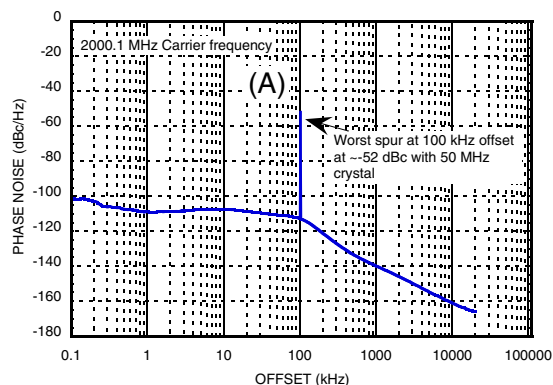
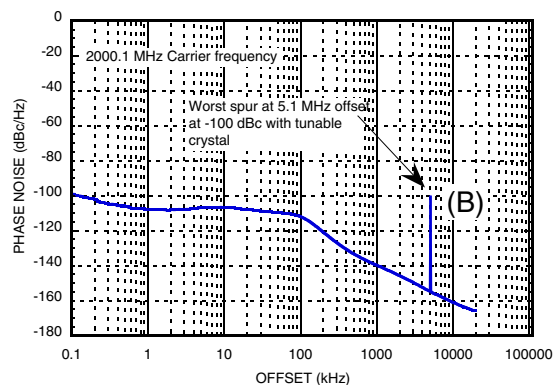
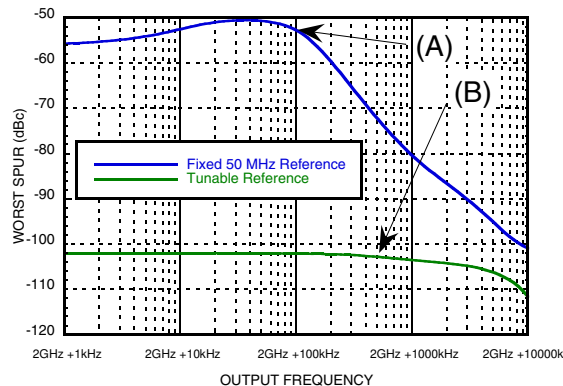

Figure 13. HMC830LP6GE Worst spur at any offset, fixed 50 MHz reference, output frequency = 2000.1 MHz
Figure 14. HMC830LP6GE worst spur at any offset, tunable reference (another HMC830LP6GE), output frequency = 2000.1 MHz
Figure 15. Largest observed spurious, at any offset, using a fixed 50 MHz reference source and a tunable reference source.
For example, Figure 13 shows the spectrum of a carrier operating at 2000.1 MHz with a 50 MHz fixed reference. This case is 100 kHz away from an Integer Boundary (50 MHz x 40). Worst case spurious can be observed at 100 kHz offset and about -52 dBc in magnitude.
Figure 14 shows the same HMC830LP6GE PLL VCO operating at the same 2000.1 MHz carrier frequency, using a tunable reference at 47.5 MHz generated by a second HMC830LP6GE. Worst case spurious in this case can be observed at 5.1 MHz offset and about -100 dBc in magnitude.
The results of Figure 13 and Figure 14 show that the tunable reference source achieves 50 dB better spurious performance, while maintaining essentially the same phase noise performance.
Many spurious measurements, such as the ones in Figure 13 and Figure 14 can be summarized into a single plot of worst case spurious at any offset vs. carrier frequency as shown in Figure 15. A log frequency display relative to the 2000 MHz fixed reference Integer Boundary was used to emphasize the importance of the loop bandwidth on spurious performance of the fixed reference case. This technique clearly shows the logarithmic roll-off of the worst case spurious when operating near the Integer Boundary. In this case the loop filter bandwidth of the HMC830LP6GE was 100 kHz.
For example worst case spurious operating at 2000.1 MHz (point (A)) in Figure 13 with a fixed 50 MHz reference) is represented by a single point in Figure 15 (point (A)) on the blue curve. Similarly, worst case spurious from Figure 14 with variable reference, operating at 2000.1 MHz is represented by a single point in Figure 15 (point (B)) on the green curve.
The plot in Figure 15 is generated by tuning the carrier frequency away from Integer Boundary and recording the worst case spurious, at any offset, at each operating frequency. Figure 15 shows that the worst case spurious for the 50 MHz fixed reference case, is nearly constant between -51 dBc and -55 dBc when operating with a carrier frequency less than 100 kHz from the Integer Boundary (blue curve). It also shows that the worst case spurious rolls off at about 25 dB/decade relative to 1 loop bandwidth. For example, at an operating frequency of 2001 MHz (equivalent to 10 loop bandwidths offset) worst case spurious is -80 dBc. Similarly, at an operating frequency of 2010 MHz (equivalent to 100 loop bandwidths) worst case spurious is -100 dBc.
In contrast, the green curve of Figure 15 shows that the worst case spurious over the same operating frequency range, when using an HMC830LP6GE tunable reference, is below -100 dBc at all operating frequencies!